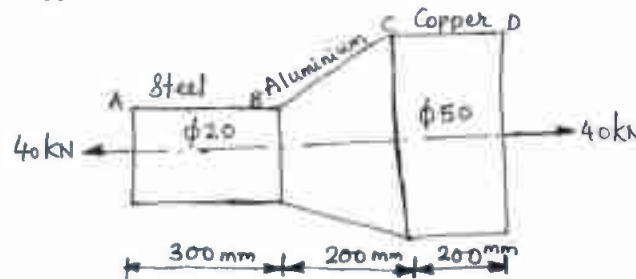

Fig. Q1(c)
- c. A stepped bar is subjected to an external loading as shown in Fig. Q1(c). Calculate the change in the length of bar. Take $E = 200 \text{ GPa}$ for steel, $E = 70 \text{ GPa}$ for Aluminum and $E = 100 \text{ GPa}$ for copper. (10 Marks)